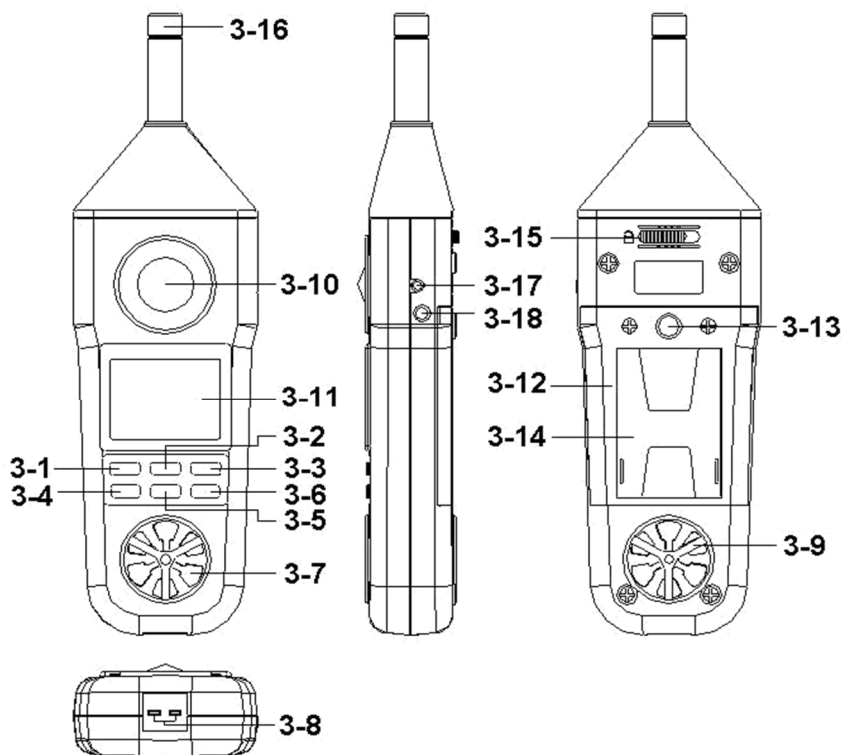

Fig. 1
The instrument has RS232 PC serial interface via a 3.5 mm terminal (3-17, Fig. 1).
- 2) Open the " Battery Compartment / Cover " (3-12, Fig. 1) and remove the battery.